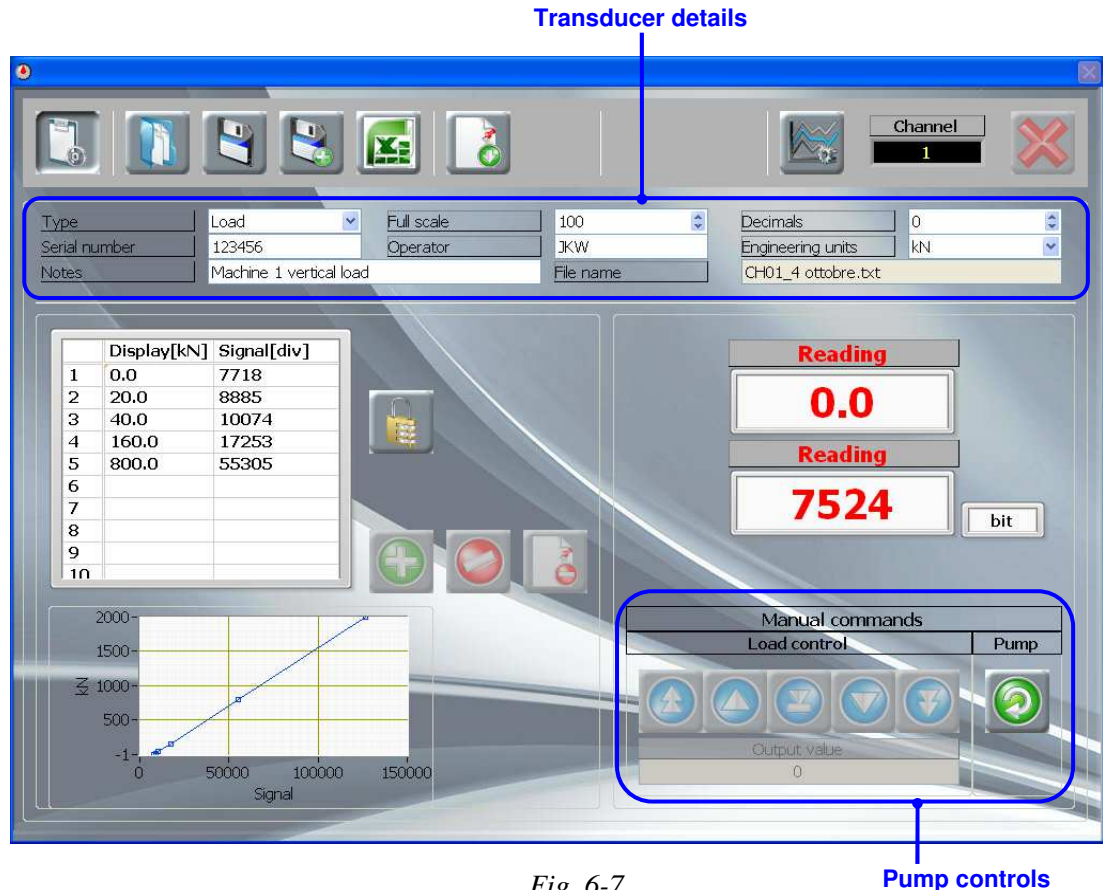

Fig. 6-7
6. Run the test frame up to the maximum load using the **Pump controls** (see Fig. 6-7)
9. Enter information about the transducer in the **Transducer details** section (Fig. 6-7).